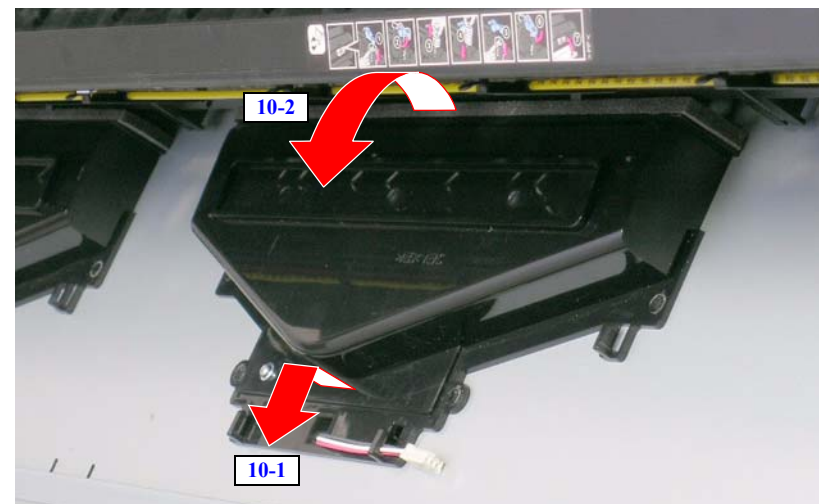

Figure 4-80. Removing the Left and Center VACUUM FAN Assies
10. To remove the left and right VACUUM FAN Assies, pull them toward you and then downward as far as they go to pull out their rear, and raise the rear toward you without raising the front to remove them from the rear. *See Figure 4-80.*